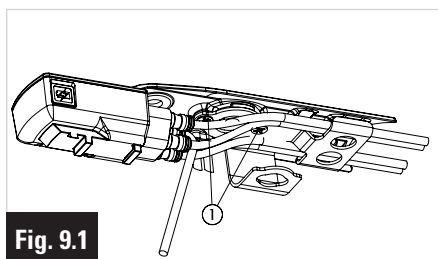
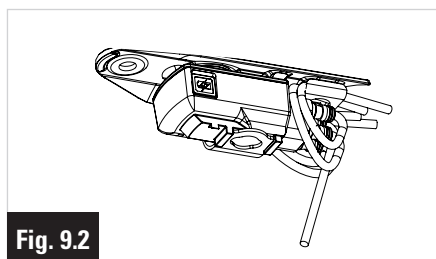

Fig. 9.1
Fig. 9.2
- 2- Slightly unscrew the screw in the cap ① .
- 3- Feed both Di2 wires coming from the right hand side of the bar into the right side of the cap, and the two from the left to the left. (fig. 9.1)
- 5- Retighten the screw in the cap ① .
- 6- Position the box on the sheet, forming the wires into a loop. (fig 9.2)